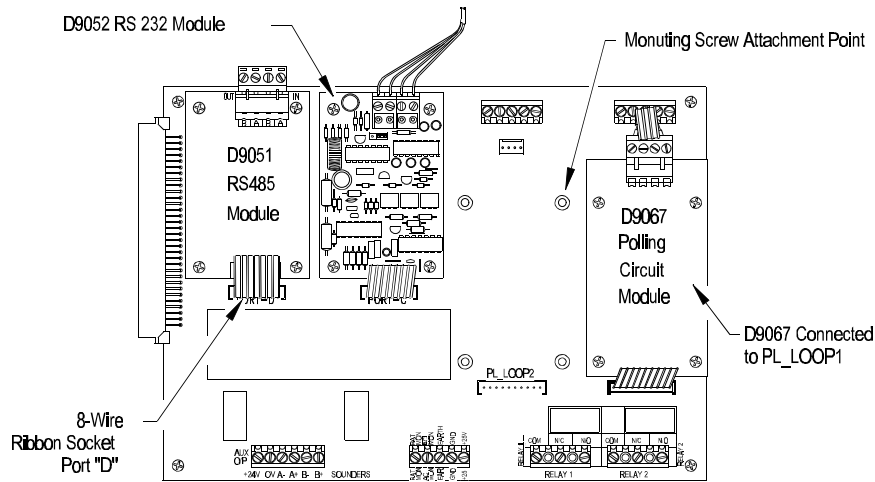

Figure 13: D9052 Module Installed in Port "C"
- If Shielded cable is used, connect the drain wire(s) to the “E” terminal of the terminal block at the top of the Control Module Board as shown in Figure 13.